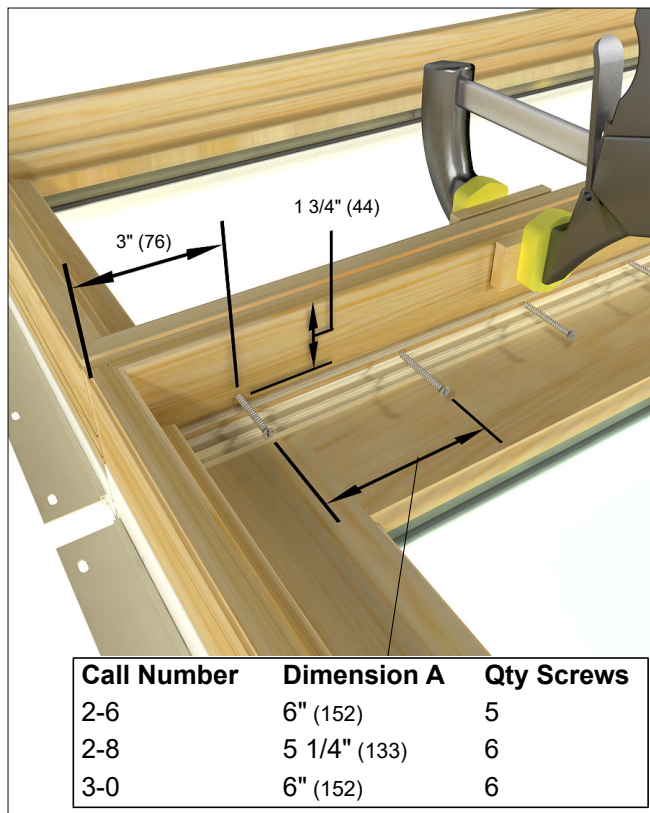

Figure 15
5. Remove the head jamb stop from the bottom mullied frame(s). Measure and mark the first hole location, 1 3/4" (4) from edge of interior wood and 3" (8) from edge of frame. Remaining hole spacing is dependent upon frame size. See figure 15. Mark the remaining holes 1 3/4" (4) from edge of wood. Pre-drill holes through head jamb with 7/64" bit. Fasten #8 x 1 3/4" screws through pre-drilled holes into the IDG frame. Reattach head jamb stop into the frame. See figure 15.